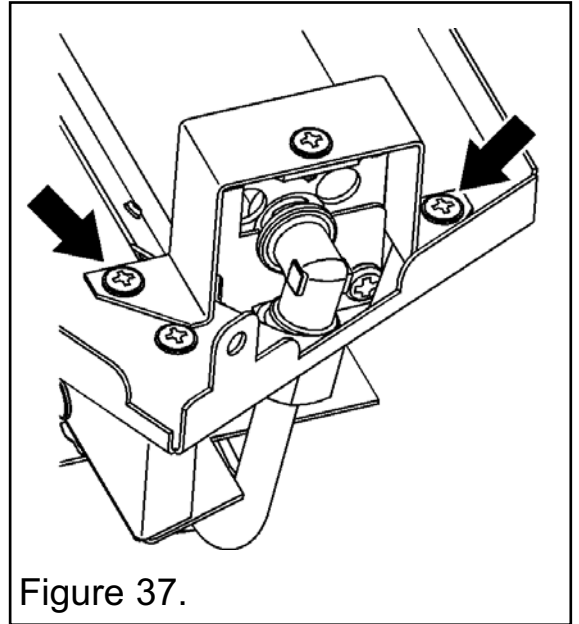

Figure 37.
4. Remove the two screws from the burner clamping plate (See figure 37)